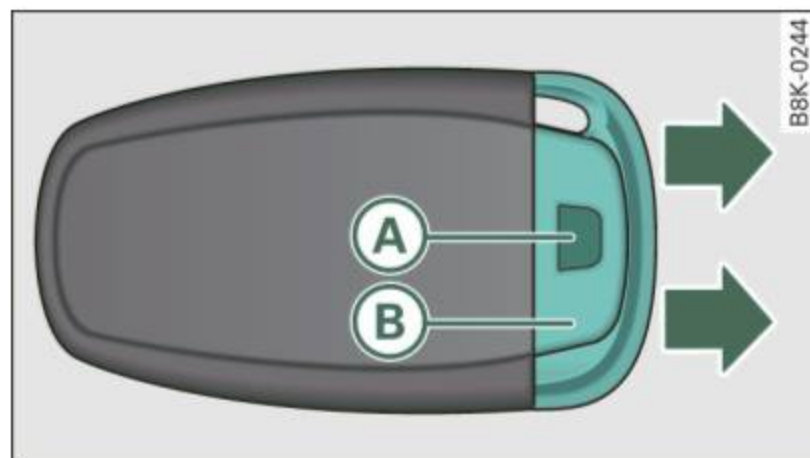

Fig. 29 Remote master key: Removing the mechanical key
- Press the release button **(A)** ⇒ fig. 29.